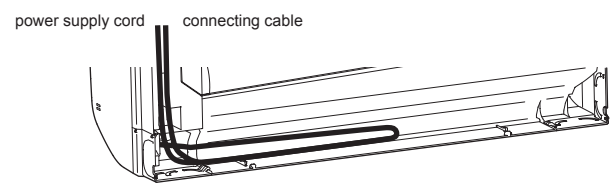

Fig. 13
13) Run the cable connected to CN105 and the power supply cord to rear side of the indoor unit. (Fig. 13)